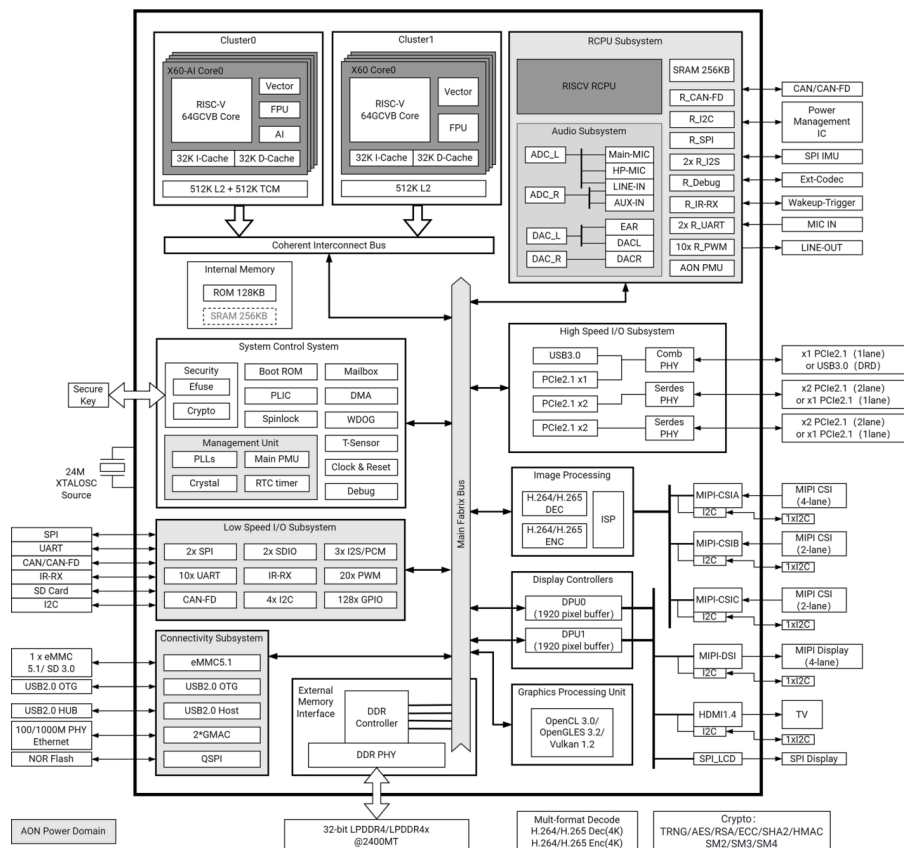

Figure 19: RISC-V K1 CPU diagram
- a) Examine the cache hierarchy in the diagram (see Figure 19) for the SPacemit K1 RISC-V octa-core processor (see <https://www.spacemit.com/en/key-stone-k1/>) and explain the overall structure.